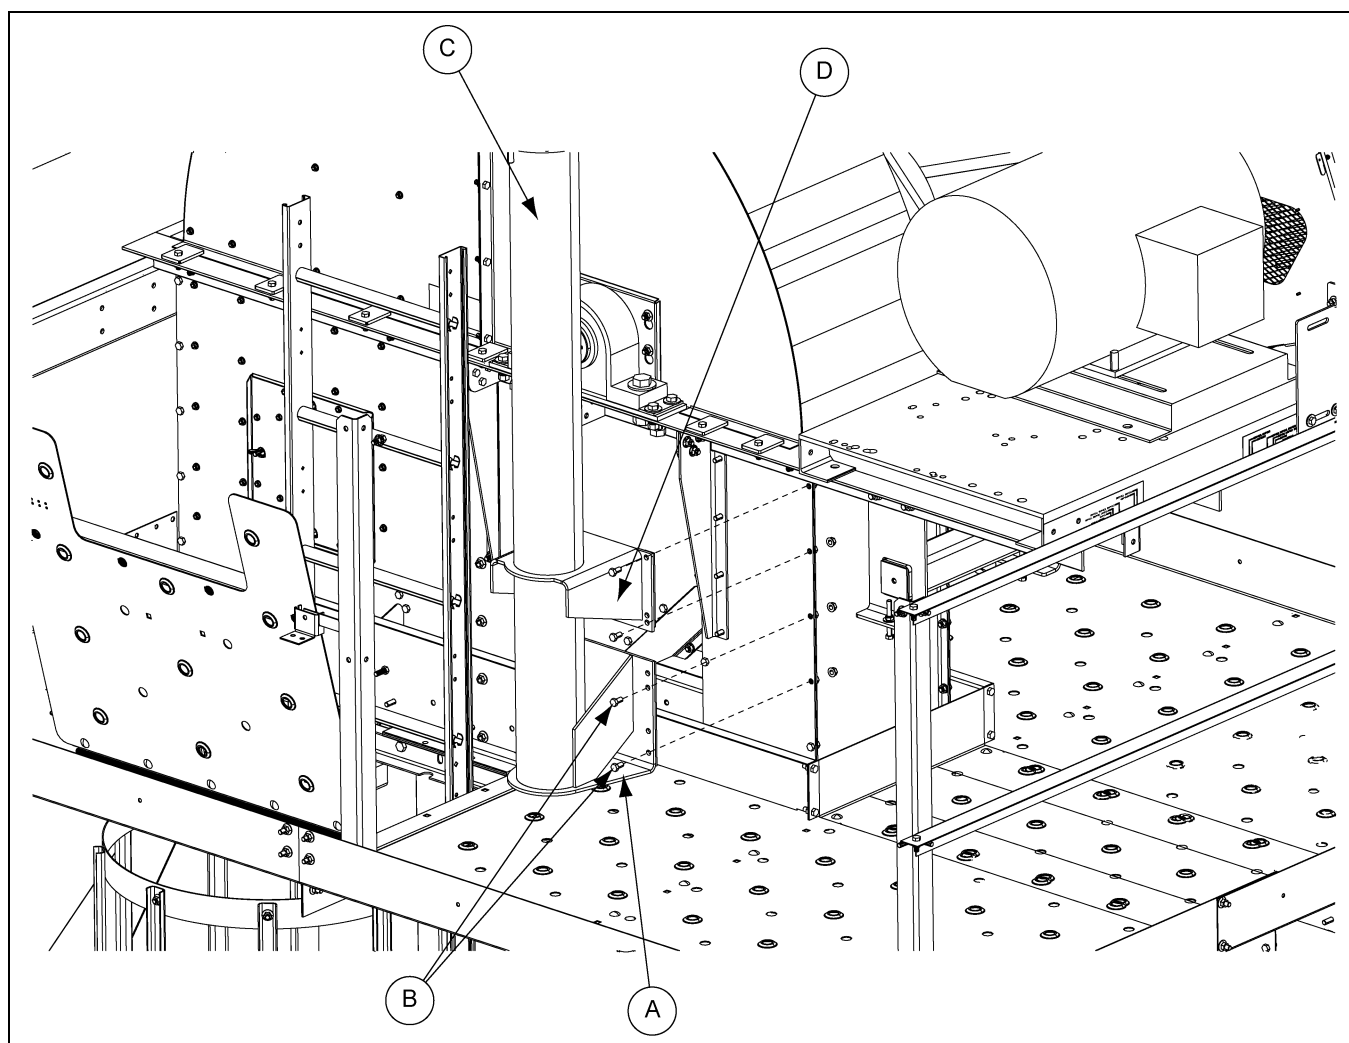
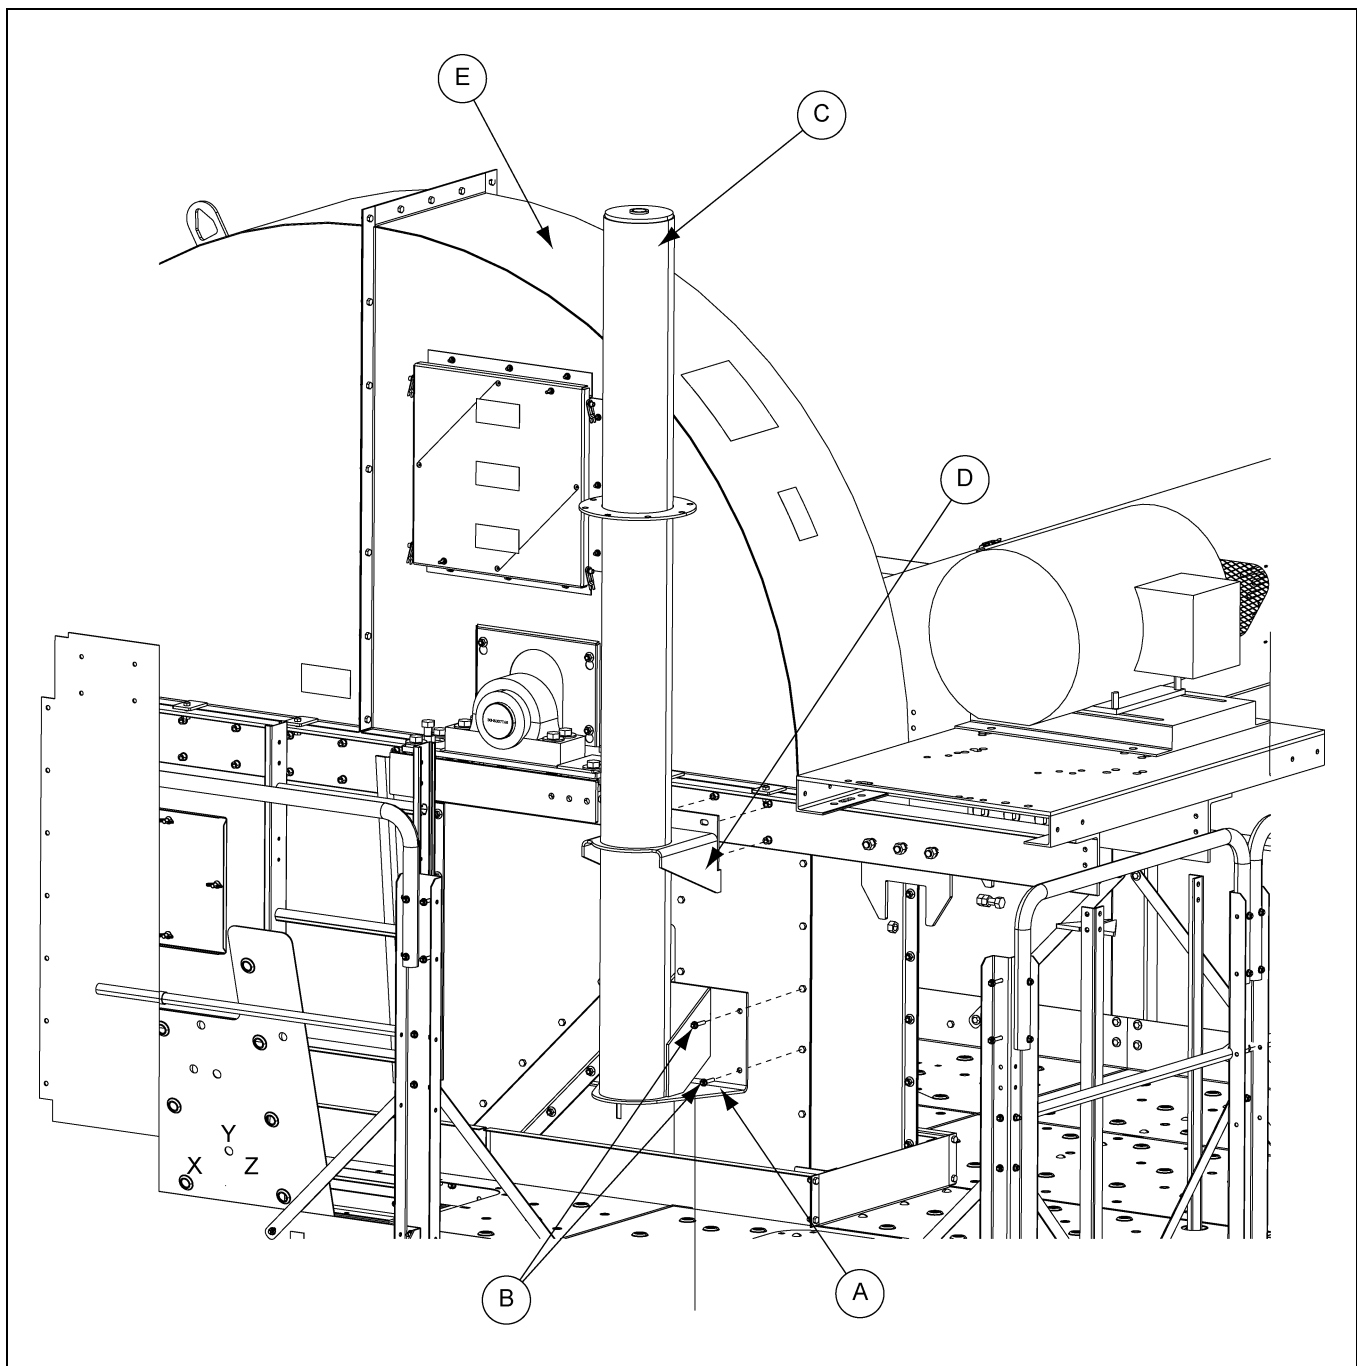
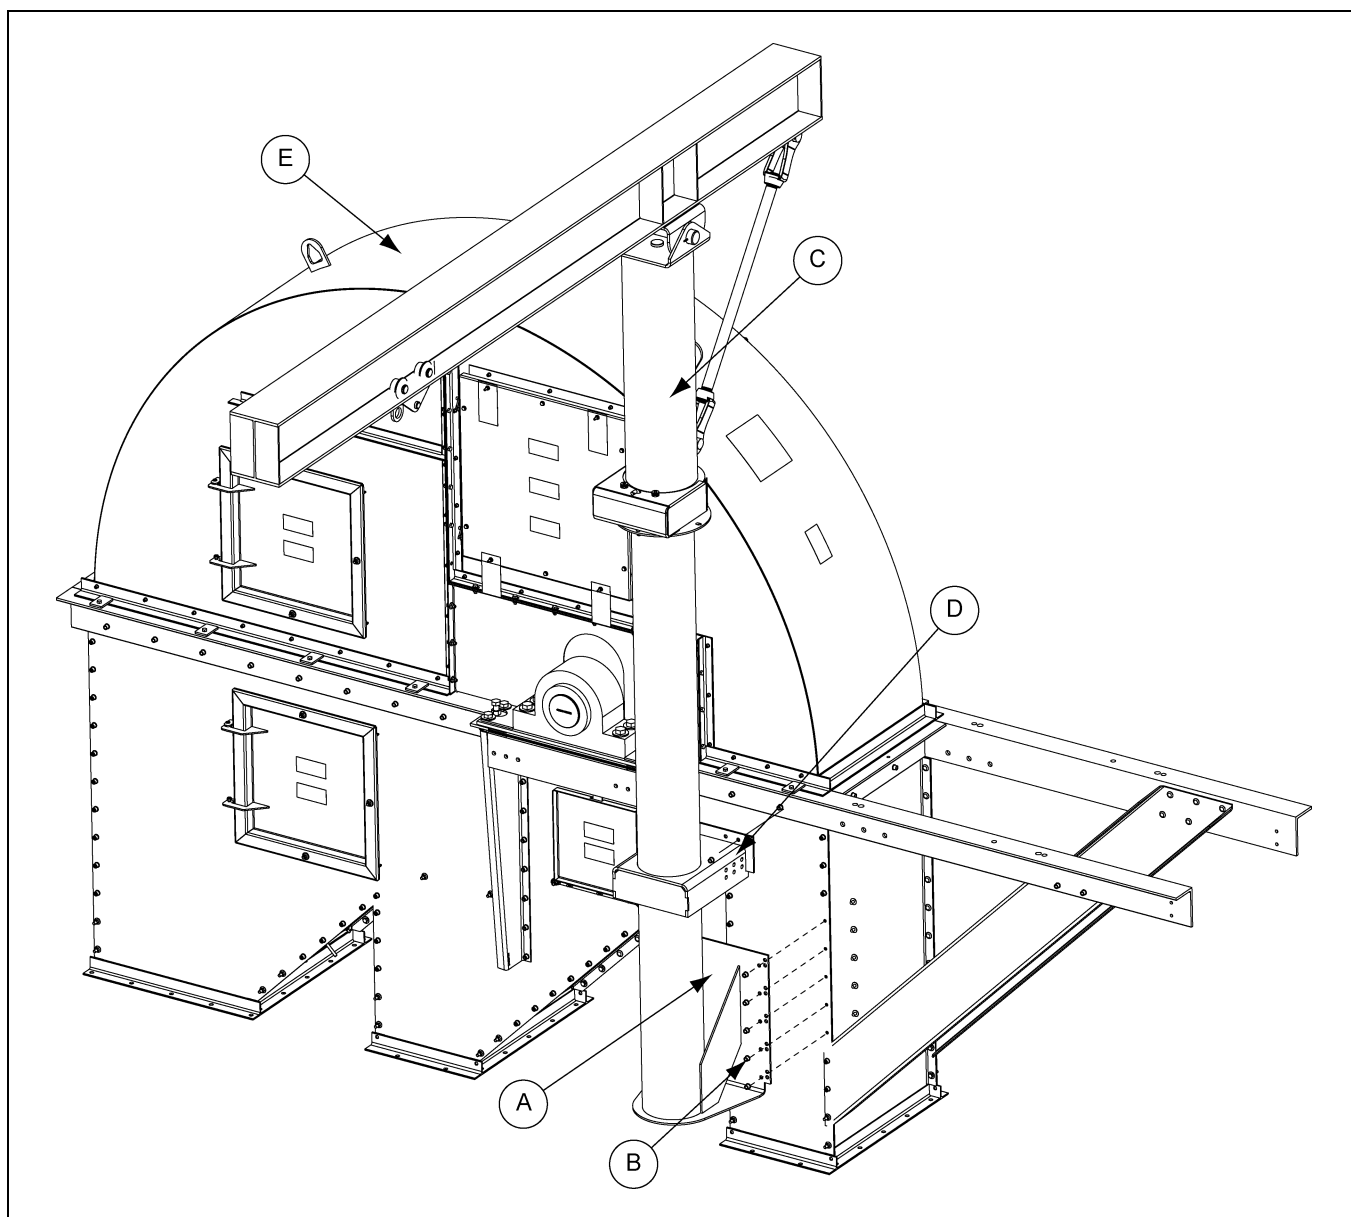

Figure 3A 16"-24" Bucket Elevator
Figure 3B 30" and 36" Bucket Elevator
Figure 3C 42"-48" Bucket Elevator
Before attaching the upper bracket base plate (D) to the head, you need to drill out or knock off the heads of the four (4) existing huck bolts on the 30" and 36". Jibs are designed to be mounted on the non-drive side. When the bolts are removed, use 3/8" x 1-1/4" bolts (B) to attach the upper bracket and lower bracket base plate (D and A) to the bucket head on the 42" and 48" elevators. Four (4) huck bolts will need to be removed from the head bearing angle as well as from the lower head for the lower bracket. All will need to be drilled out for 1/2" hardware. (See Figure 3A below, Figure 3B on Page 13 and Figure 3C on Page 14.)